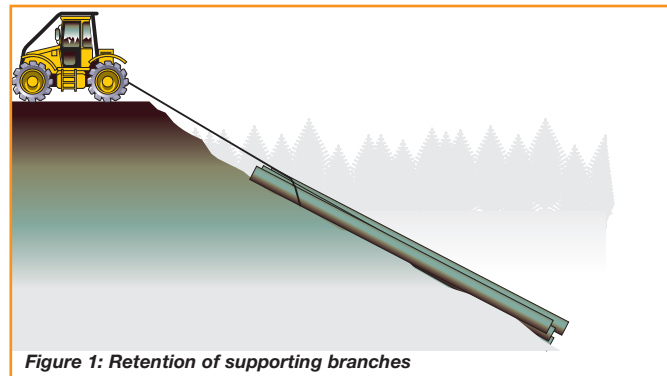

Figure 1: Retention of supporting branches
- ❑ 14 Park the tractor in a stable position where it is as level as possible (see *Figure 1*).